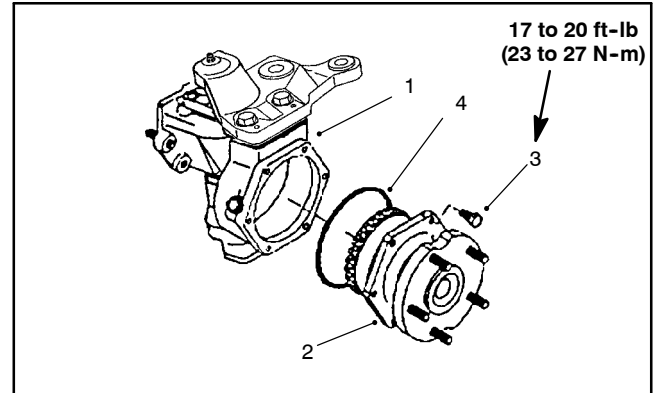

Figure 23
1. Remove the axle cover mounting screws. Remove the axle cover from the axle case as an assembly (Fig. 23).